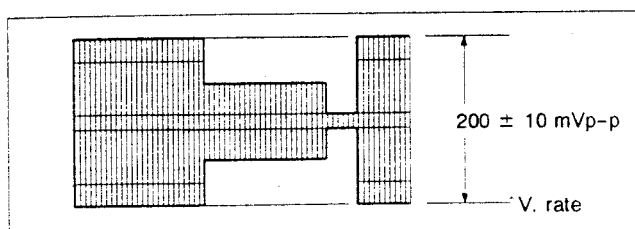

Fig. 3-1-13 REC colour level
- Confirm that colour level is 200 ± 10 mV p-p, as in Fig. 3-1-13.